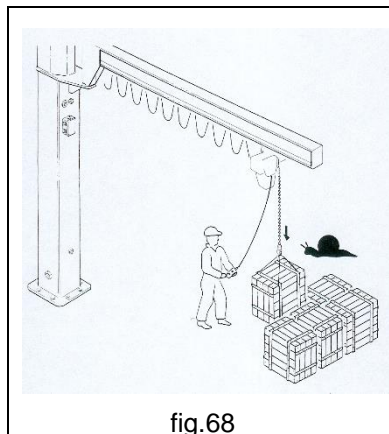

fig.68
- ALWAYS use "slow" speeds for approaching and positioning operations (fig. 68).